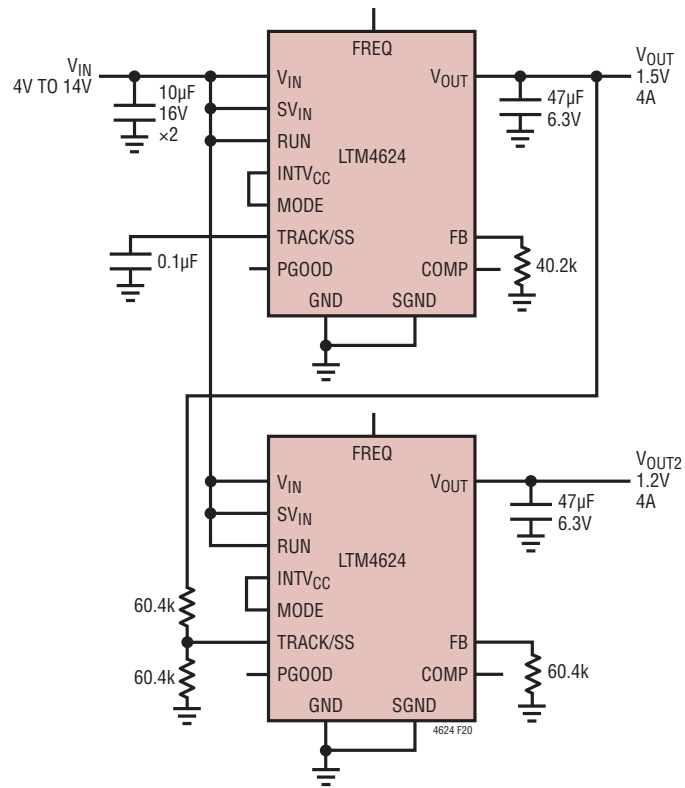

Figure 20.  $4V_{IN}$  to  $14V_{IN}$ , 1.2V and 1.5V with Coincident Tracking
**Table 6. Output Voltage Response vs Component Matrix (Refer to Figure 20)**